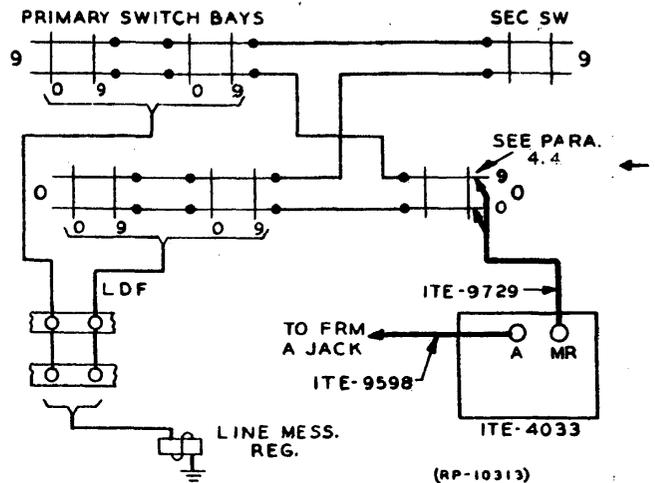

FIG. 1 SETUP FOR TEST
4.4 Set up the testing equipment as shown in Figure 1. Attach the fixture of cord ITE-9729 to the horizontal multiple of secondary switch #0.